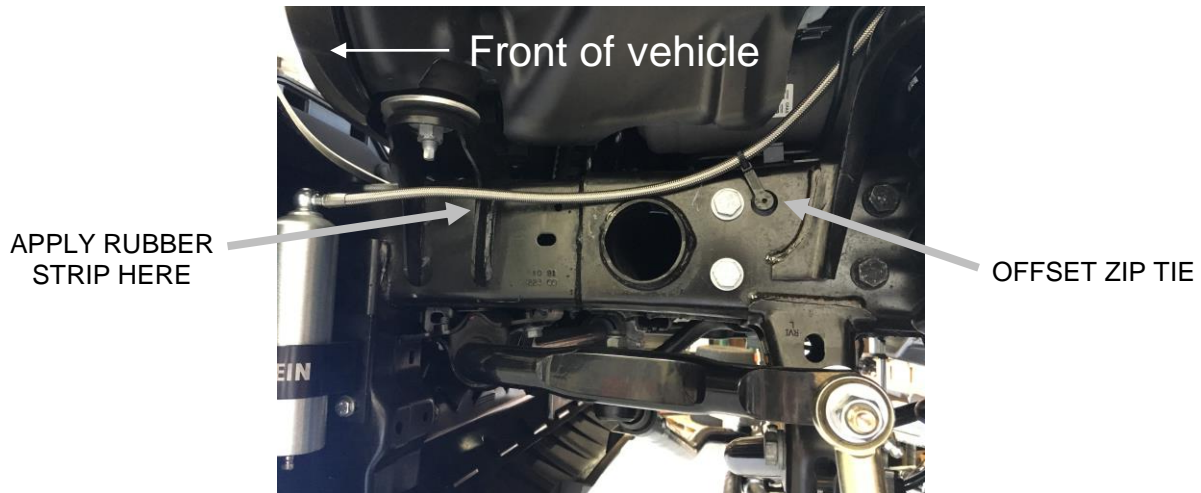

Figure 14 – Driver side
- Y. For the Driver side, route the hose as shown in Figure 14. Use the offset zip tie in the hole shown and route the hose behind the fender lining and brake line. Apply the rubber strip where shown.